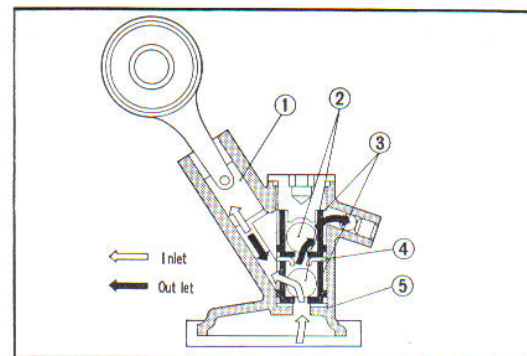

Fig. 3.82 Sectional view of oil pump
Pump plunger is mounted eccentrically on the clutch outer and is operated by the plunger rod. (Fig. 3.82)
- Exercise care when installing the pump rod, installing pump rod in reverse will render the pump inoperative. (Fig. 3.82, 3.83)